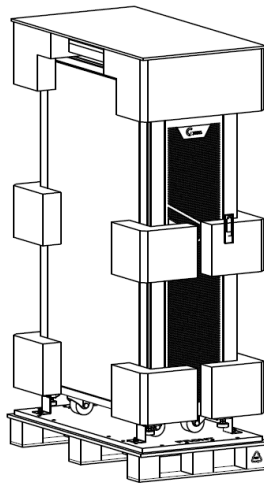

Figure 2-3 Disassemble the case
3. Unpack the package as shown in Figure 2-3.